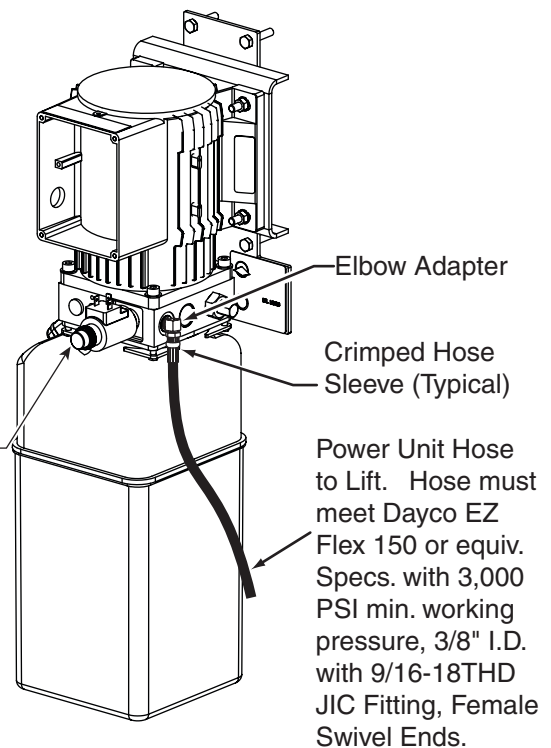

Fig. 9
**C.** Install hose onto elbow adapter on power unit, Fig. 9.